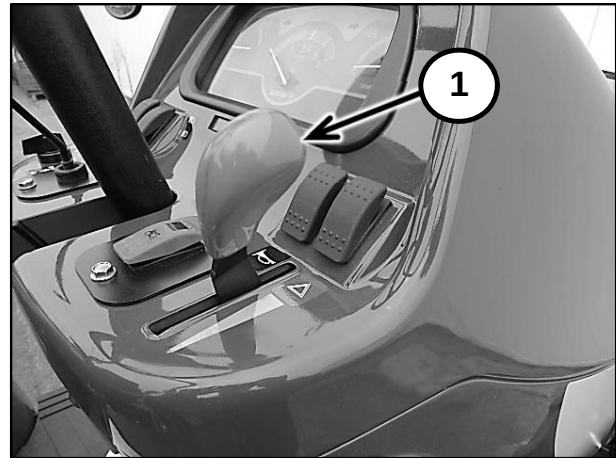

Figure 2-23
The hand throttle (1) in Figure 2-23, is located on the RH side of the console. Push the throttle forward to increase the engine RPM, Pull the throttle rearward to decrease the RPM.